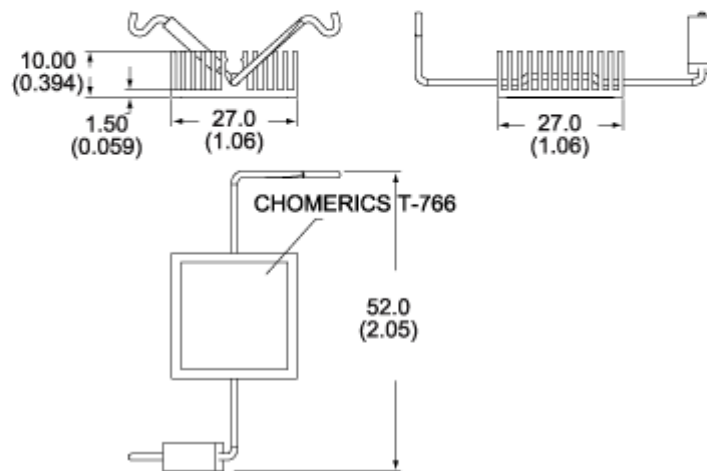

Figure 7.3. 10 mm Tall Passive Heat Sink (AAVID Thermalloy PN: 374324B60023G)
1. Max T_{case} is based on 27 x 27 x 10 mm Thermalloy heat sink as shown in Figure 7.3.
2. 101.5 mm x 114.5 mm, 2s2p JEDEC board using 27 x 27 x 10 mm Thermalloy* heat sink as shown in Figure 7.3.
If required, the following extruded heat sinks are suggested for I347-AT4 thermal solutions. They can be seen as shown in Figure 7.2 and Figure 7.3 with their respective mechanical drawings.
- 27 mm x 27 mm x 10 m heat sink (Figure 7.3)
Note: 27 x 27 10 mmmm Thermalloy HS in Figure 7.3.